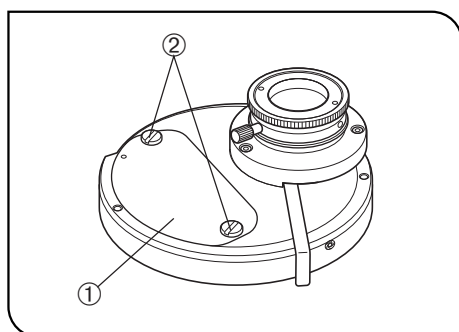

Fig. 32
4. After attaching all of the required DIC prisms, attach the cover ① and tighten the retaining screws ②. (Fig. 32)